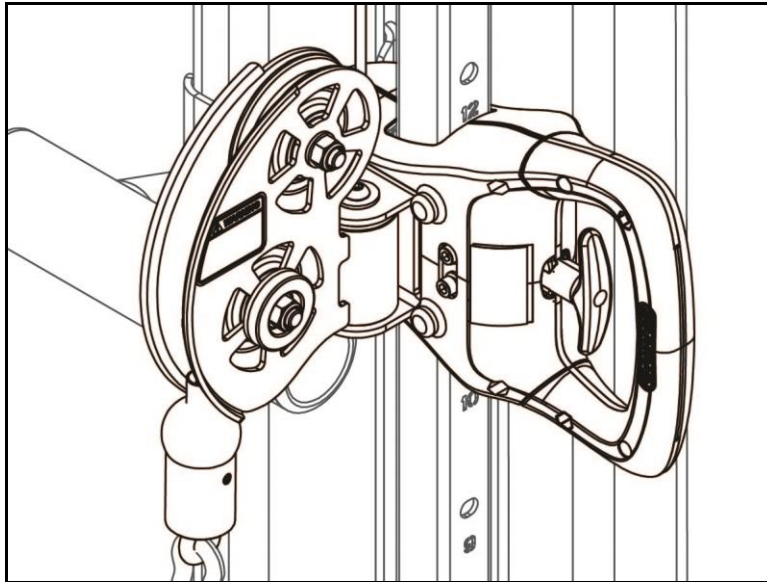

Fig. 15
15. To complete installation reverse Steps 4 to 1; the fully assembled carriage should look like the below (Fig. 15).